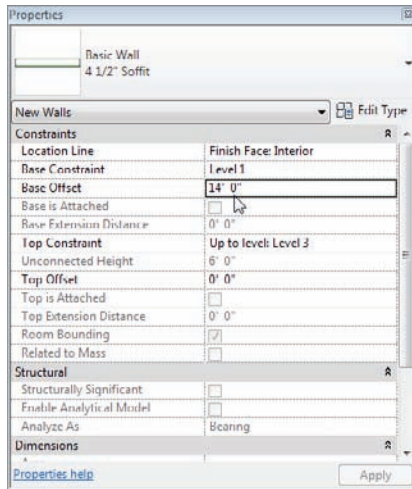

FIGURE 9.27 Modifying the dimensions of the 6 1/8" wall
11. Click OK twice (see Figure 9.27).